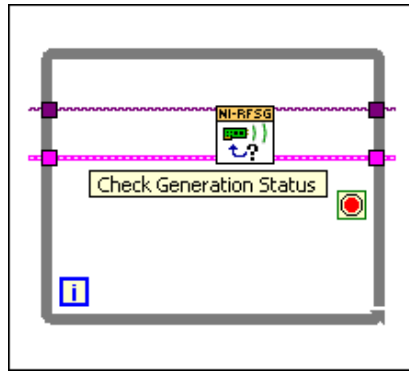

Figure 5. Enclose niRFSG Check Generation Status VI in the While Loop
3. Enclose the niRFSG Check Generation Status VI in the While Loop, as shown in Figure 5 below.